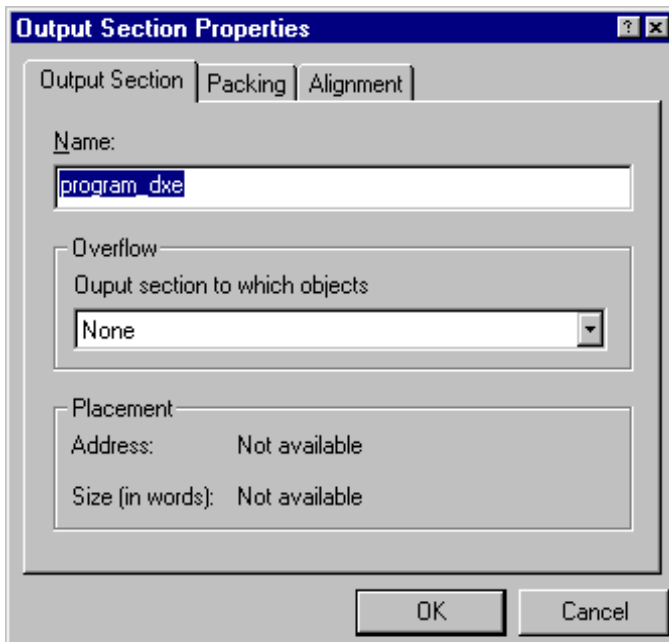

Figure 4-49. Output Section Properties Dialog Box – Output Section Tab
2. Choose **Properties** (Figure 4-49)